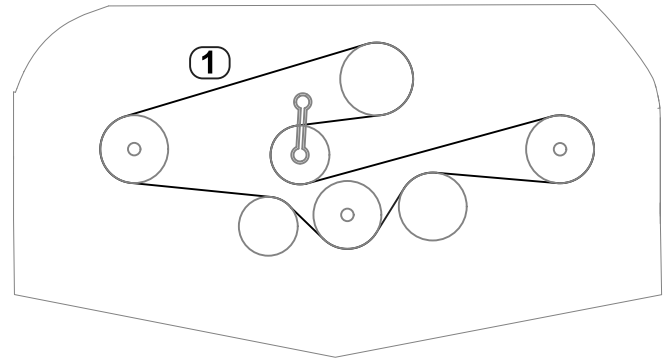

Figure 28
5. Using a torque wrench or similar tool to hold the idler pulley, route the new belt around the spindle pulleys and idler-pulley assembly as shown in Figure 28.